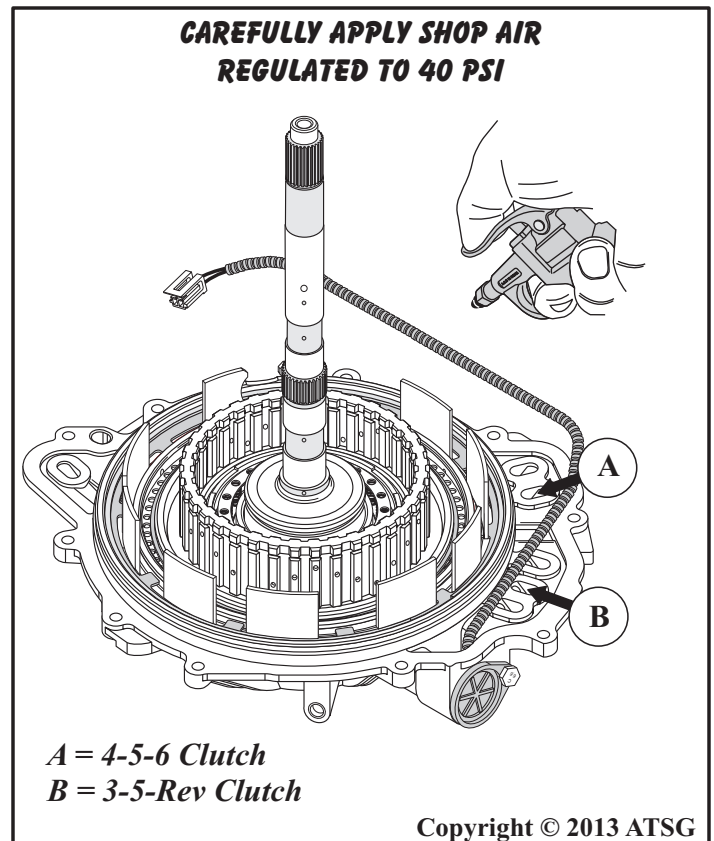

Figure 163
57. Install the completed 3-5-Rev & 4-5-6 clutch housing into the completed rear cover assembly, as shown in Figure 163.
58. Carefully apply shop air, regulated to 40 psi, as shown in Figure 163, and observe the movement of the 4-5-6 clutch piston and the 3-5-Rev clutch piston.